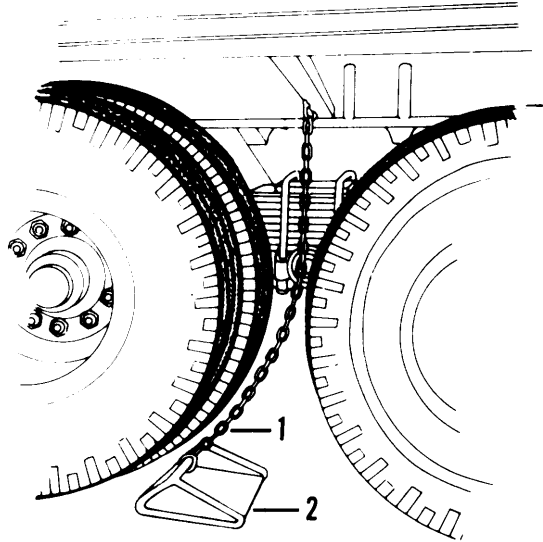

Figure 4-45. Chock BLOCK
(1) Using cutting torch, cut weldment (fig. 4-45).
- (2) Grind weld off frame surface.
- (3) Remove chain (1) from chock block (2).
- (4) Repeat steps 1 through 3 for other chock block as needed.
- (1) Position chock block chain (1, fig. 4-45) on frame according to markings.